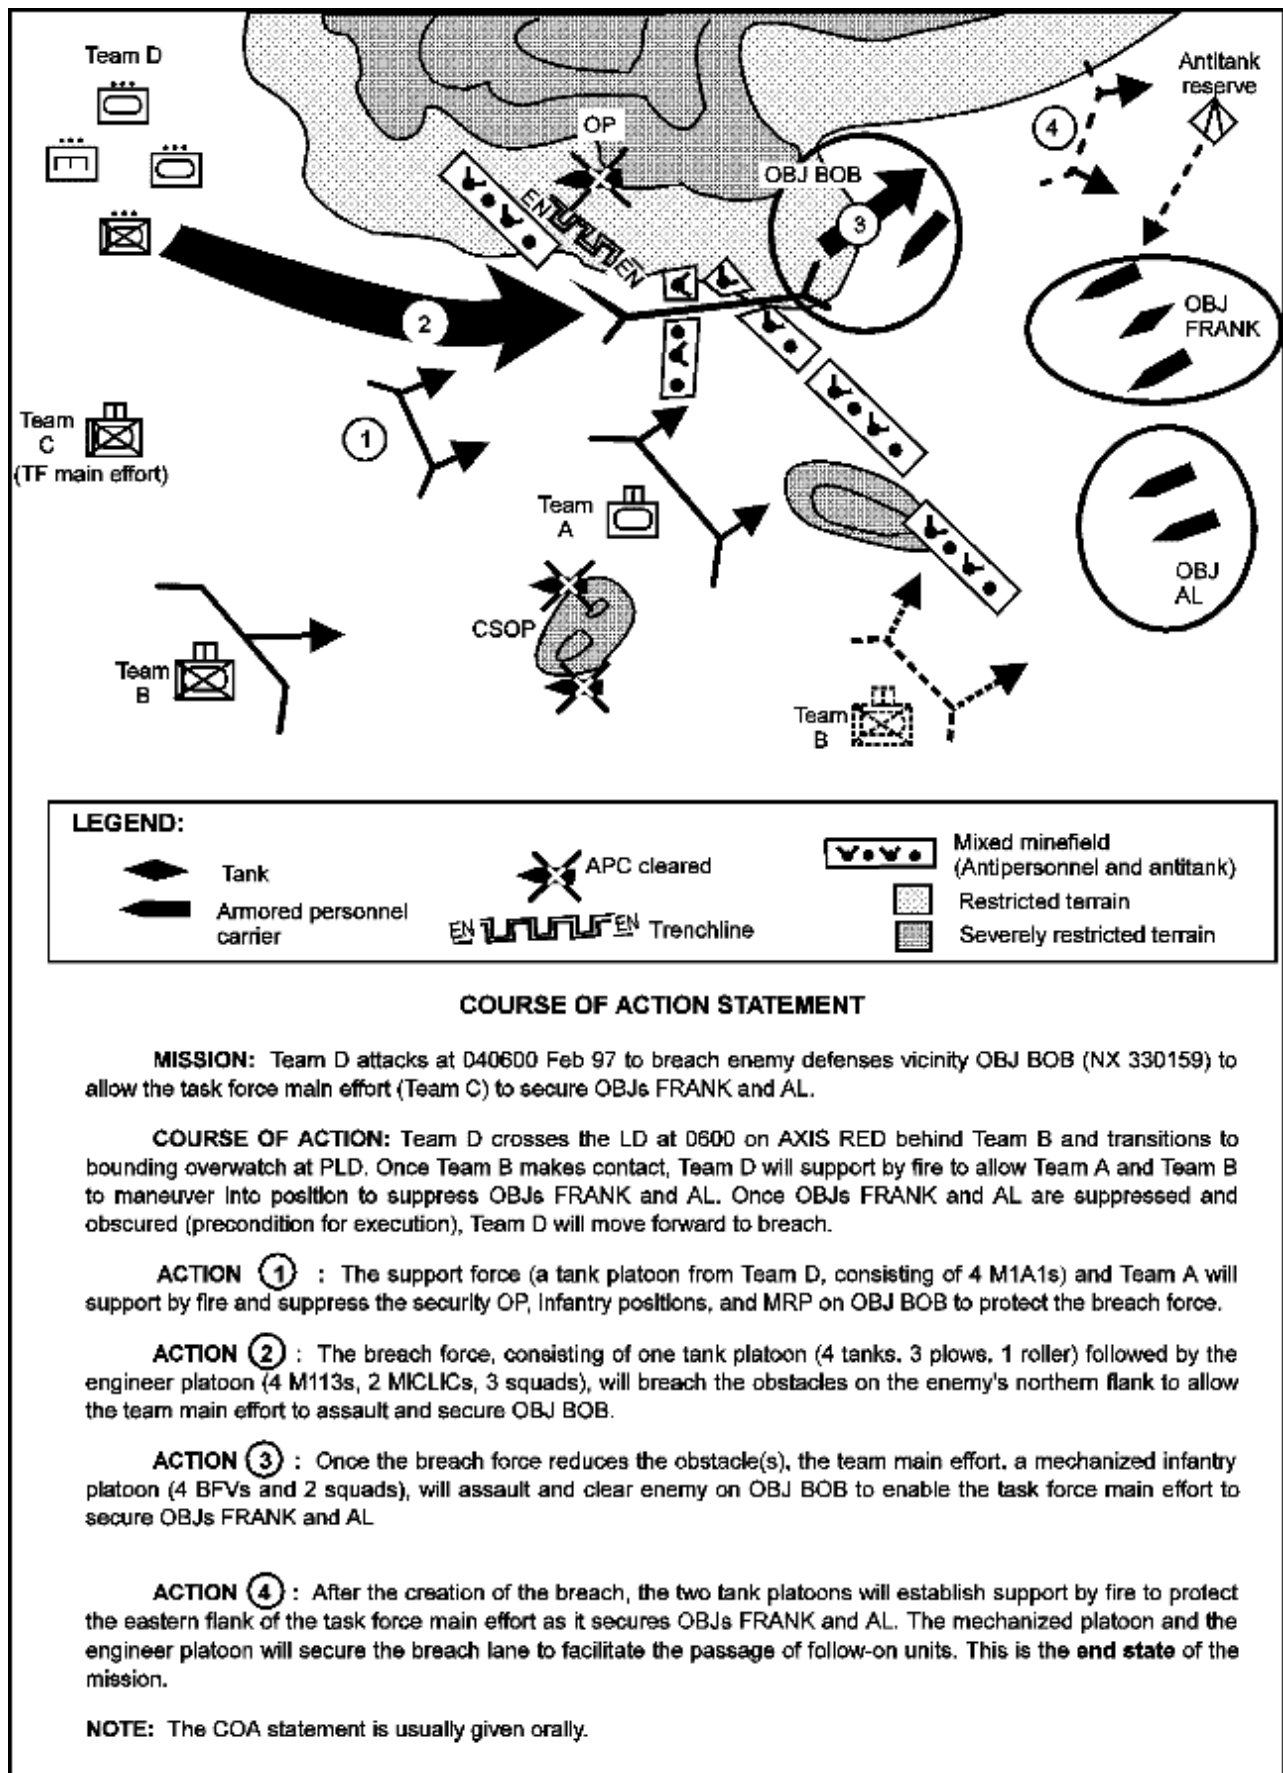

Figure 2-13. COA sketch and statement.
***COA Step 6 - Prepare COA statements and sketches.*** The commander's ability to prepare COA sketches and statements will depend on the amount of time available. Whenever possible, he should prepare a sketch showing each COA to clarify maneuver aspects of the COA; he should also prepare a statement describing specific actions that may occur. Figure 2-13 shows a sample COA sketch and COA statement.